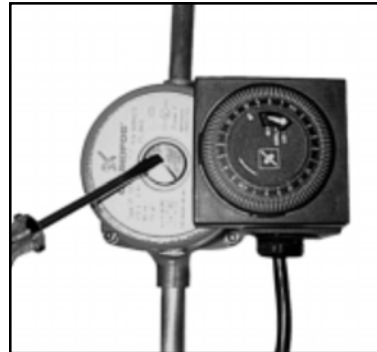

Figure 7a
1. Remove the four (4) Allen screws from the pump housing and stator (4 or 5mm wrench) while supporting the stator (motor).
4. Check that the motor shaft turns freely. Remove the large screw in the middle of the nameplate, insert a small flat blade screwdriver into the end of the shaft, and turn gently (see fig. 7a).
When the pump is first started, the shaft may rotate slowly until water has fully penetrated the bearings. If the pump does not run, the shaft can be rotated manually. To accomplish this, switch off the electrical supply, and close the isolation valves on each side of the pump. Remove the indicator plug in the middle of the nameplate. Insert a small flat blade screwdriver into the end of the shaft, and gently turn until the shaft moves freely (see Figure 7a). Replace and tighten the plug. Open the isolation valves and wait 2 to 3 minutes for the system pressure to equalize before starting the pump.